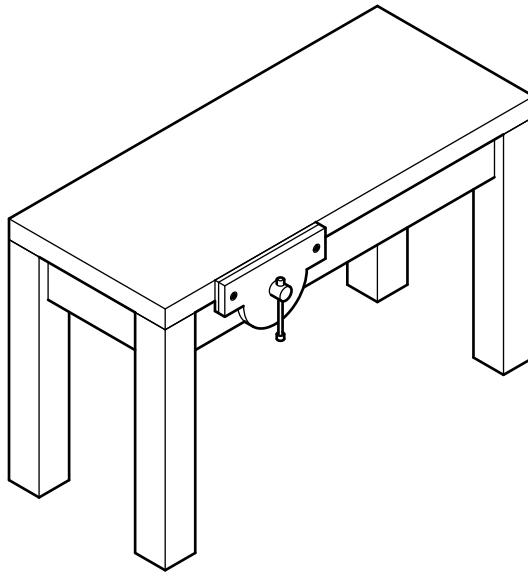

Fig. 2
- 2 Fig. 2 shows a workbench.
Use sketches and notes on Fig. 2 to show how the frame could be made more rigid.